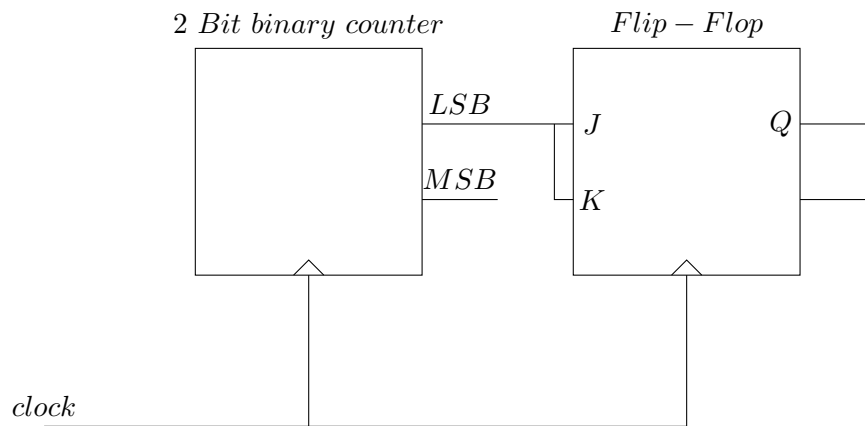

Figure 6.6:
5. For the circuit shown in Fig. 6.6, the clock frequency is  $f_0$  and the duty cycle is 25%. For the signal at the  $Q$  output of the Flip-Flop,